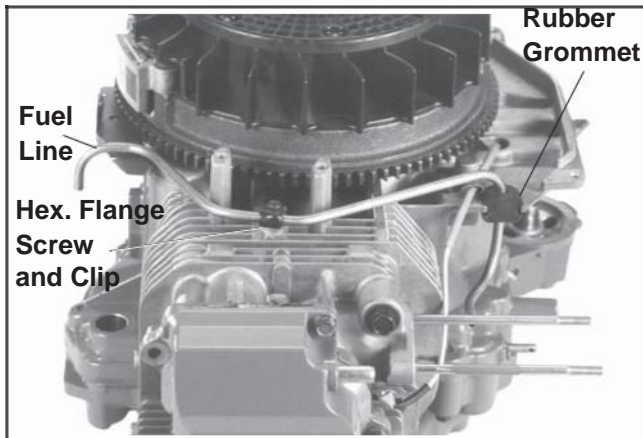

Figure 9-22. Removing Fuel Line (not on all models).
1. Remove the hex. flange screw, clip, fuel line and rubber grommet. See Figure 9-22.